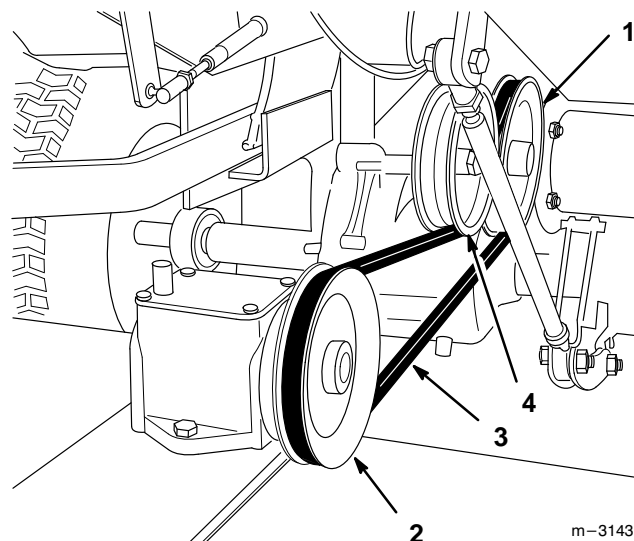

Figure 4
2. Install the drive belt around the jackshaft pulley, on the traction unit, and the gearbox pulley. Raise the idler pulley and position over the upper portion of the drive belt (Fig. 4).